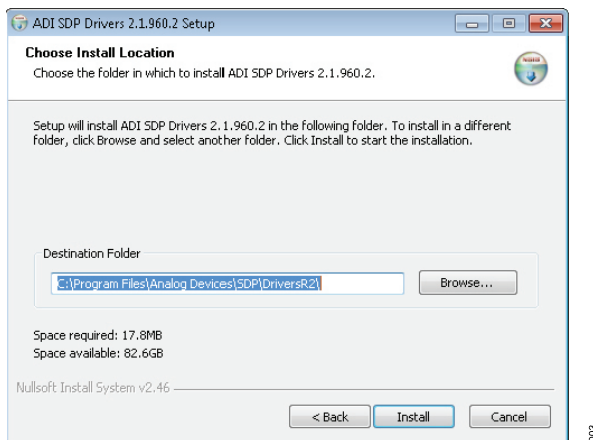

Figure 3. Choose Install Location Window
3. When the **Choose Install Location** window appears (see Figure 3), click **Install**. To select a different destination folder, in the **Destination Folder** area, click **Browse**, select a destination, then click **Install**.